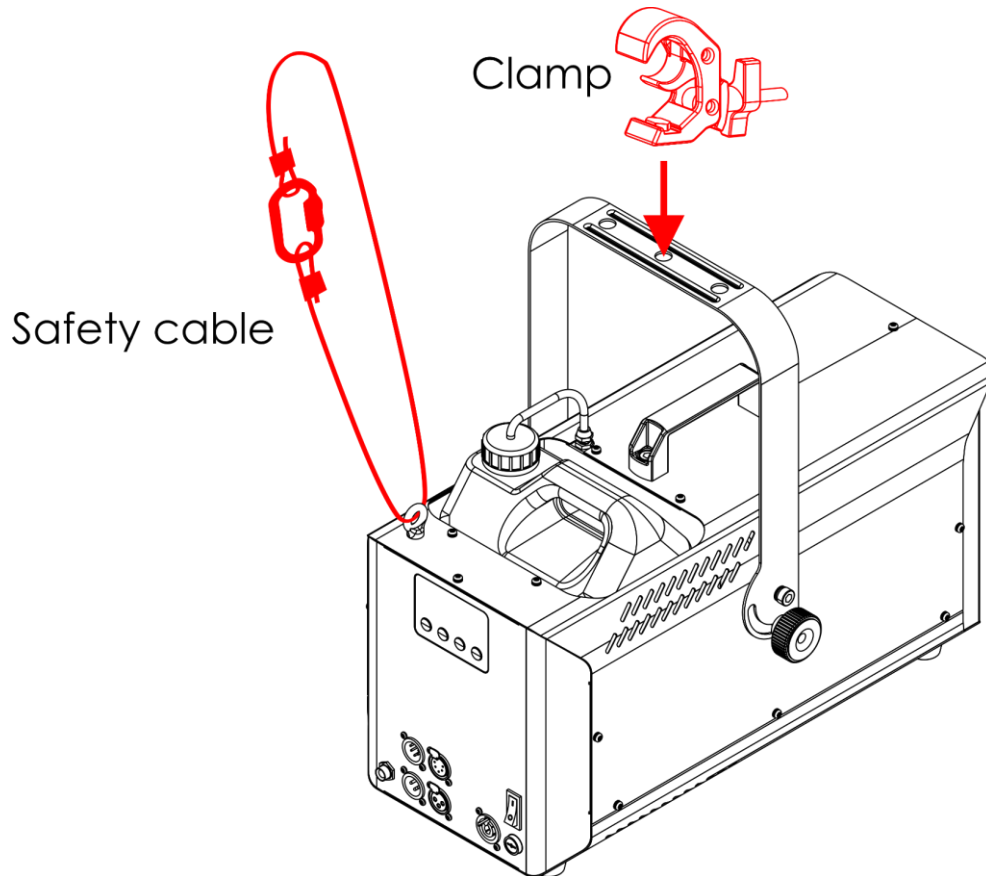

Fig. 05
- 01) Use a clamp to attach the device to the supporting structure, as shown in Fig. 05. Make sure that the device cannot move freely.
- 02) Secure the device with a secondary suspension, for example a safety cable. Make sure that the secondary suspension can hold 10 times the weight of the device. If possible, the secondary suspension should be attached to a supporting structure independent of the primary suspension. Put the safety cable through the **safety eye (15)**, as shown in Fig. 05.